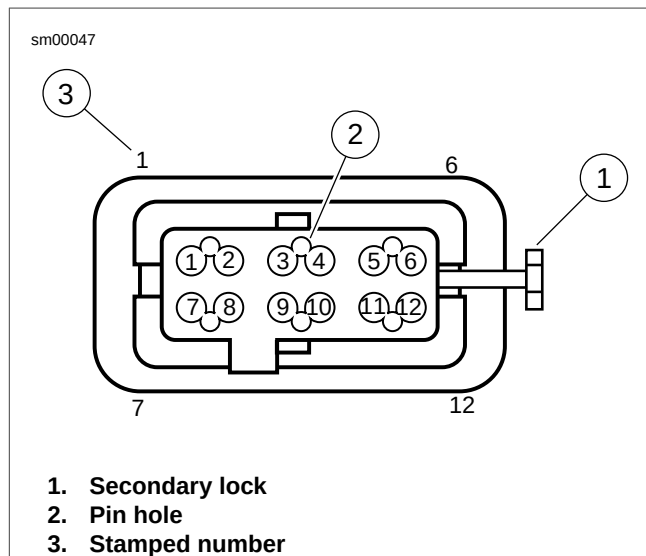
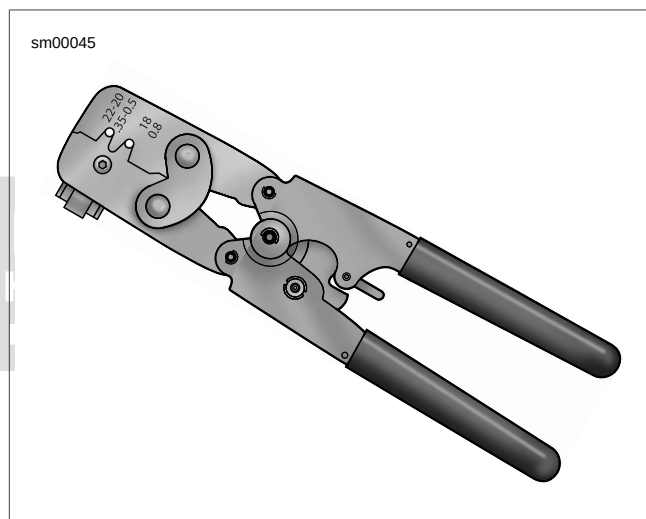

Figure A-45. Packard Micro 64 Connector: Housing
Figure A-46. Packard Micro 64 Terminal Crimper (HD-45929)
1. See Figure A-45. Locate the head of the secondary lock (1) on one side of the connector housing.
3. Locate pin hole (2) between terminals on mating end of connector.
4. See Figure A-46. Obtain the PACKARD MICRO-64 TERMINAL REMOVER (Part No. HD-45928).
See Figure A-45. For wire location purposes, the corners of the socket housing are stamped (3) with the numbers 1, 6, 7 and 12, representing terminals 1-6 on one side, and 7-12 on the other.